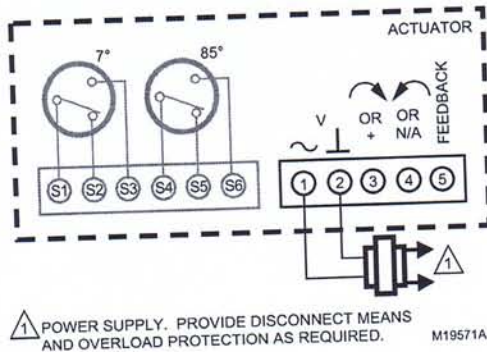

Fig. 11. Terminal block details.
2. Connect power to terminals 1 and 2. (See Fig. 11 and Table 5.)
4. Apply control signal for actuator 100% position. (See Fig. 11 and Table 5.)
- a. (0)2-10 Vdc: apply 10 Vdc signal to terminal 3.
- b. 10-(0)2 Vdc: apply (0)2 Vdc signal to terminal 3.
- c. (0)4-20 mA: apply 20 mA signal to terminal 3.
- d. 20-(0)4mA: apply (0)4 mA signal to terminal 3.
- e. Floating: apply 24 Vac to appropriate CW (3) or CCW (4) terminal.
6. Apply control signal for actuator 0% position. (See Fig. 11 and Table 5.)
- a. (0)2-10 Vdc: apply (0)2 Vdc signal to terminal 3.
- c. (0)4-20 mA: apply (0)4 mA signal to terminal 3.
4. Apply control signal for actuator 50% position. (See Fig. 11 and Table 5.)
- c. Floating: apply 24 Vac to appropriate CW (3) or CCW (4) terminal.